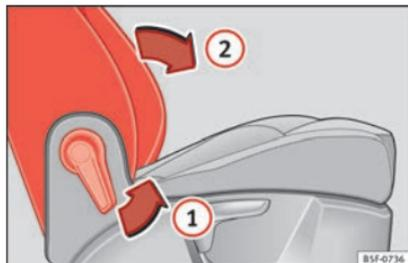

Fig. 149 Front passenger seat: lever for folding down the backrest.
- Pull lever ① » Fig. 149 and push the seat backrest ② until the backrest is horizontal.